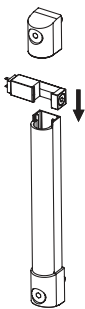

Fig.4
- Insert the float with the word "up" or the spherical end to the top and relocate the assembly end in place (Fig.4).